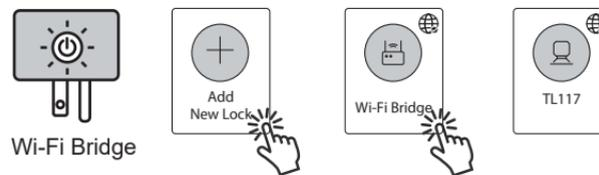

Fig. 20
Step 2. Tap **Add New Lock** and choose **Wi-Fi Bridge** from the list. Enter your Wi-Fi ID and Password to finish the set up (Fig.20).
Step 3. After the Wi-Fi Bridge set up successfully, the power indicator will stay on purple color (Fig. 20).